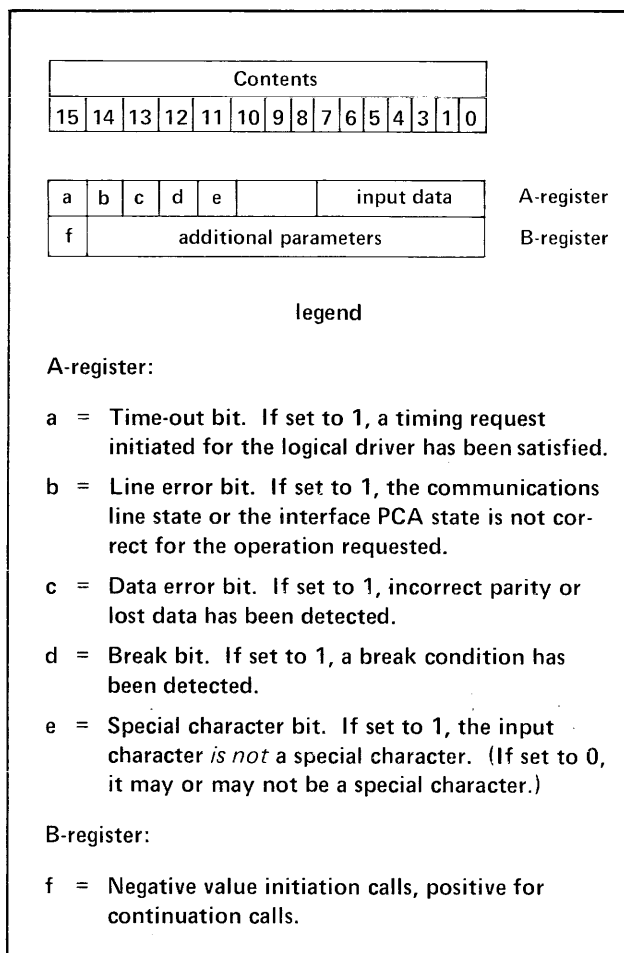

Figure 3. Contents of A- and B-register (when control passes from physical to logical driver)
- a. The A-register contains status bits in the left byte (bits 11-15) and in the case of continuation Read calls, input data in the right byte (bits 0-7). Refer to Figure 3. Note: For an initial read call, a write call, or a call because a logical driver timing request has been completed, the right byte contains no data.